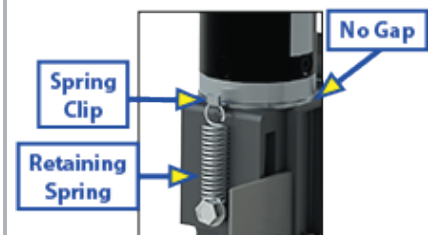

Fig. 8
4. If there is a retaining spring (**Fig. 8**), use a pick tool to remove the end of the retaining spring from the motor spring clip. **DO NOT remove the retaining spring screw.**
- A. Re-installing the motors. If there is a retaining spring, make sure the end of the retaining spring is re-hooked to the motor spring clip (**Fig. 8**).
- C. Using a transit bar (slide-out locking bar). Make sure motor is properly seated with no gap between the mounting bracket and block (**Figs. 8 and 9**).